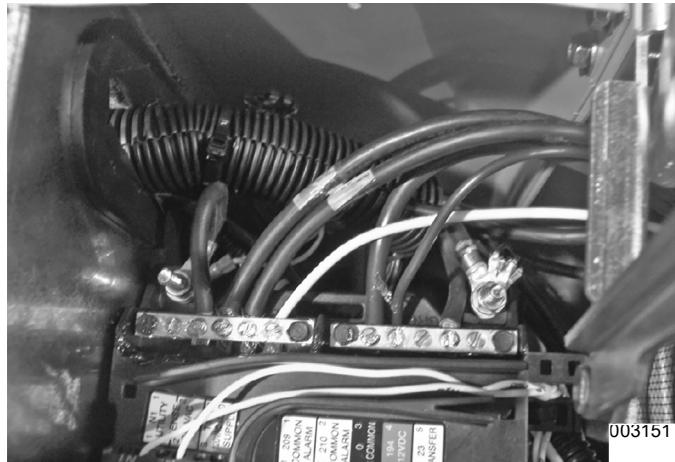

Figure 4-3. Tabs on Controller
2. **Remove Controller:** See Figure 4-3. Use a 1/4" socket to remove the screw that is directly underneath the support bracket and then slide the controller back to line up the tabs on the controller with the openings on the divider wall.